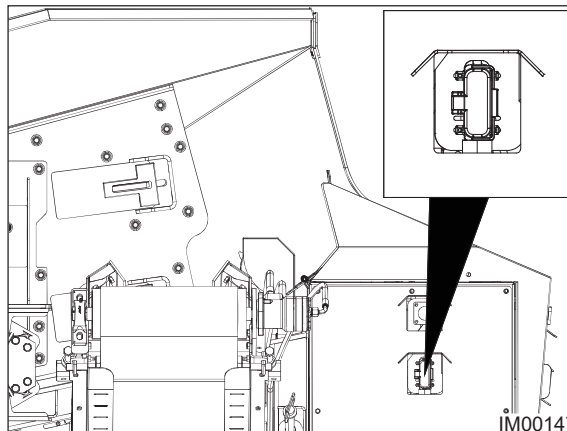

Fig: 8.12 - Umbilical Plug Socket
3. Obtain the over-ride plug and insert it into the plug socket located on the side of the engine compartment (Fig: 8.12) and secure.